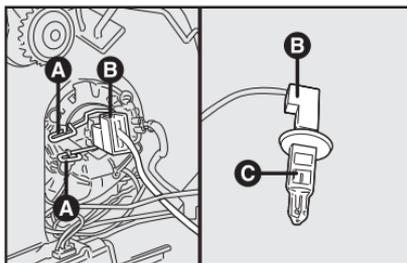

fig. 16
- 2) Desengatar a mola **A-fig. 16**, retirar o conector **B** e remover a lâmpada **C**.